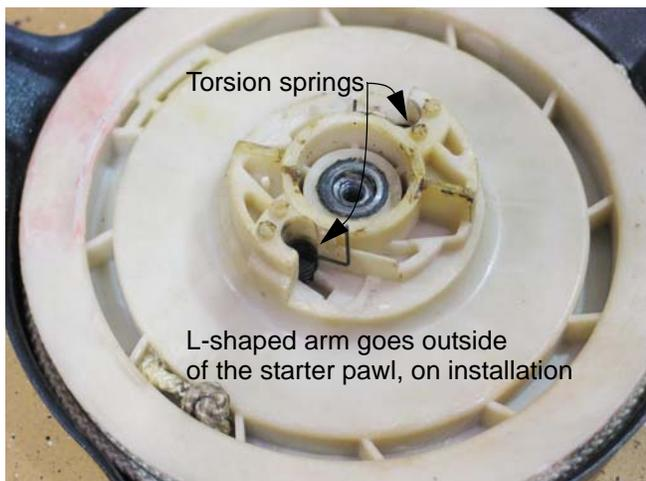

Figure 6.10
3. Inspect the pawls and torsion springs for wear and damage. See Figure 6.10.